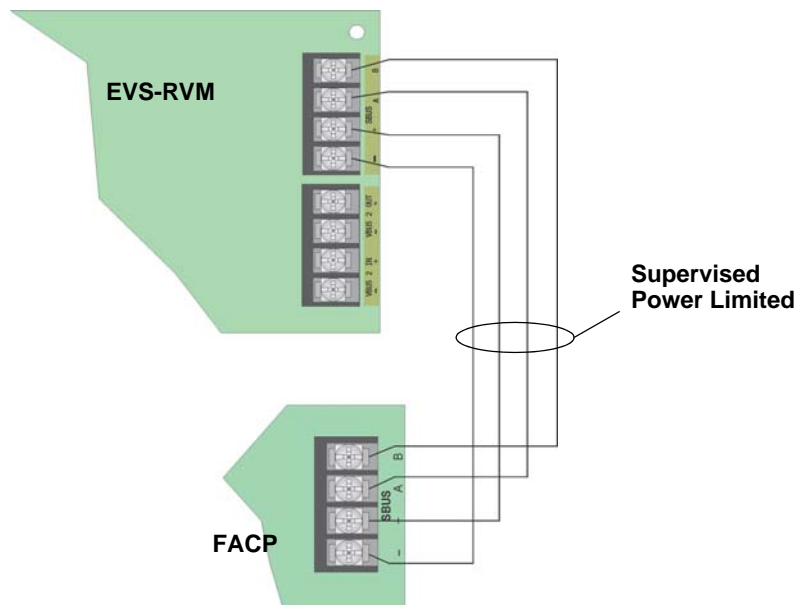

Figure 4.51 SBUS Connections
1. Refer to Figure 4.51 to properly connect the EVS-RVM to the FACP's SBUS.
- Disconnect the SBUS connections from the SBUS terminals on the EVS-RVM. See Figure 4.51.